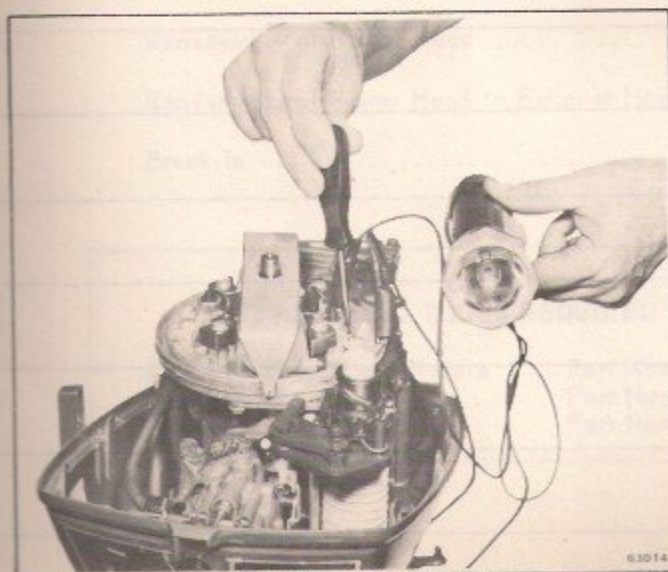

Figure 4-20. Adjusting Breaker Points
e. If the timing is not correct, rotate the crankshaft clockwise one complete turn and align the timing fixture between the timing marks. Adjust points until the meter or light just indicates an open circuit. See Figure 4-20.